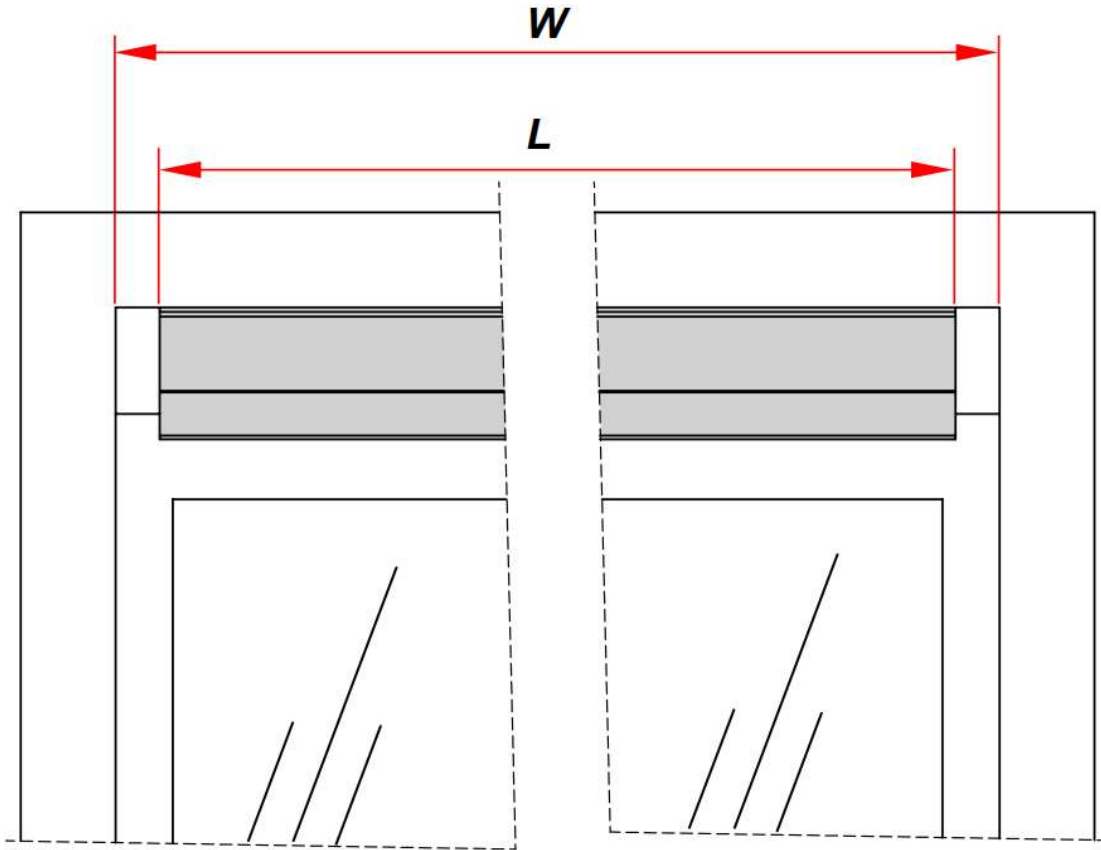

Figure 7: Cut the cover (shown in grey) to a length  $L$  which is 0.51" to 0.59" (13-15 mm) shorter than  $W$ .
- Cut the cover to a length ( $L$ ) which is **0.51" to 0.59"** (13 to 15 mm) **shorter** than the inside width ( $W$ ) of the sliding door frame (see Figure 7).